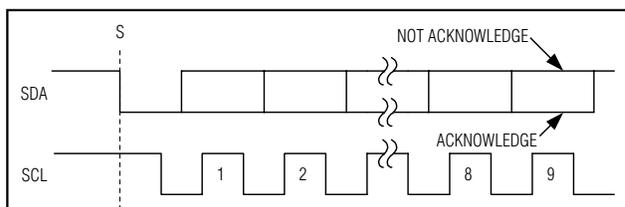

Figure 6. Acknowledge Bits
Data transfers are acknowledged with an acknowledge bit (A) or a not-acknowledge bit ( $\overline{A}$ ). Both the master and the MAX1236-MAX1239 (slave) generate acknowledge bits. To generate an acknowledge, the receiving device must pull SDA low before the rising edge of the acknowledge-related clock pulse (ninth pulse) and keep it low during the high period of the clock pulse (Figure 6). To generate a not-acknowledge, the receiver allows SDA to be pulled high before the rising edge of the acknowledge-related clock pulse and leaves SDA high during the high period of the clock pulse. Monitoring the acknowledge bits allows for detection of unsuccessful data transfers. An unsuccessful data transfer happens if a receiving device is busy or if a system fault has occurred. In the event of an unsuccessful data transfer, the bus master should reattempt communication at a later time.